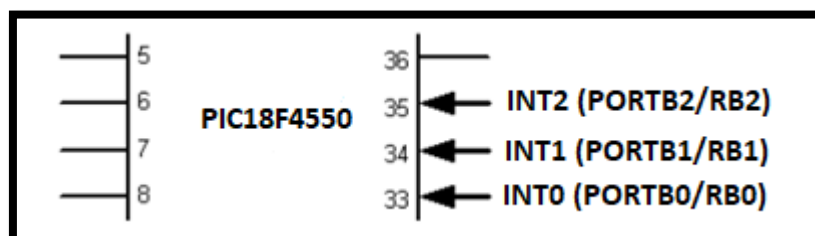

Figure 4.4: The Setup for External Hardware Interrupts
- Figure 4.4 below is how the setup looks for fixing the devices to the external hardware interrupts. There is a total of three INTx. All of its flag signals are positive edge triggered by default. The convention to name its signals is using INTOIF and INTOIE for external hardware interrupt 0, where you use the number 0 in the middle to denote which interrupt you are using.